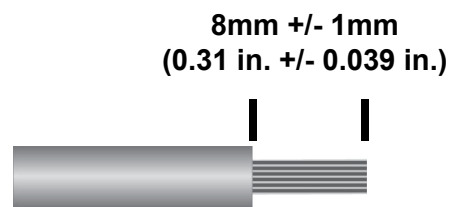

Figure 60. Stripped Wire
3. With a 14-gauge wire insulation stripping tool, strip the three wires in the tray cable coming from the DC input power source to $8\text{mm} \pm 1\text{mm}$ ($0.31\text{ in.} \pm 0.039\text{ in.}$), as shown in Figure 60 on page 98.